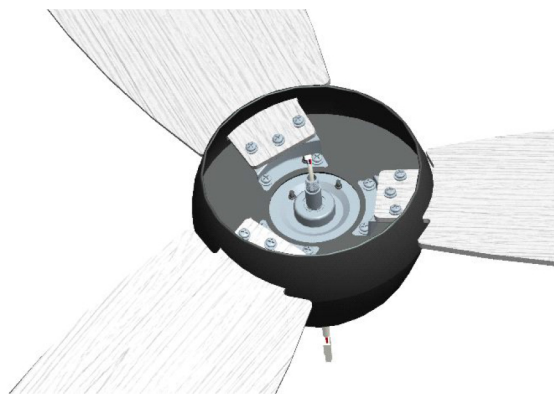

Fig 2.2
2.2 Repeat for the remaining blades. The installation of the blades is shown in the Fig 2.2.